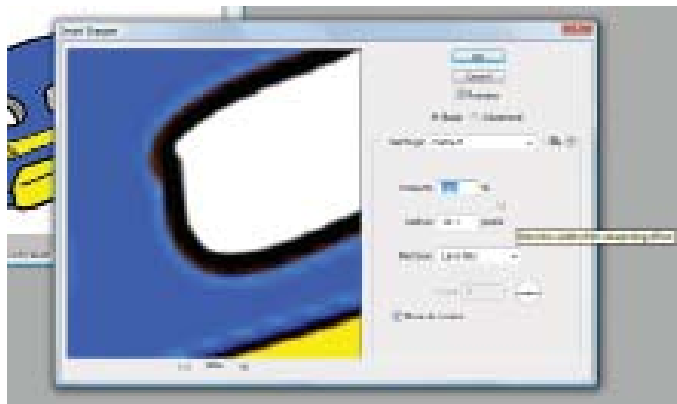

Figure 4 - Smart Sharpen Filter
- b. Use the Smart Sharpen filter to smooth out the image blurriness. There are no exact figures to enter into the Amount and Radius fields. Use the slider bar below both fields and the preview window to adjust accordingly until the best, smoothest image is achieved. (FIGURE 4)